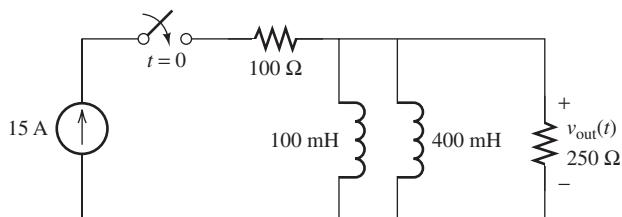

FIGURE P5.28 Circuit for Problem 5.28.
- 5.28 (A)*** Find the voltage, $v_{\text{out}}(t)$, shown in Figure P5.28. Assume that the switch is closed at $t = 0$.